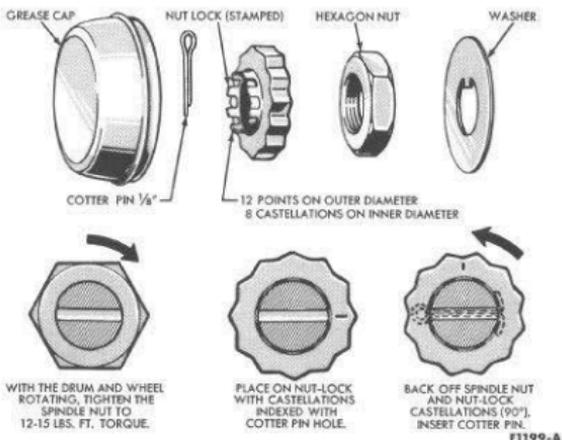

FIG. 1—Front Wheel Spindle Nut Installation and Adjustment
2. After the adjusting nut is properly torqued, place the nut-lock over the adjusting nut so that one cotter pin castellations is aligned with the cotter pin hole in the spindle (Fig. 1).
3. Using a 1½-inch box end wrench, back-off the adjusting nut and nut-lock two castellations (90°) as shown in Figure 1.